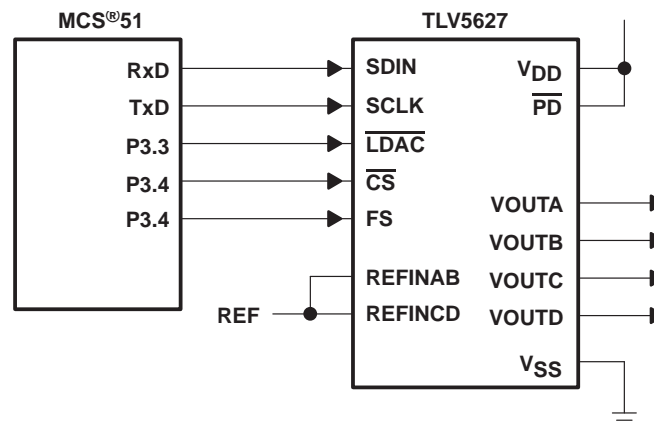

Figure 18. TLV5627 Interfaced with MCS[®]51
Figure 18 shows an example of how to connect the TLV5627 to an MCS[®]51 Microcontroller. The serial DAC input data and external control signals are sent via I/O Port 3 of the controller. The serial data is sent on the RxD line, with the serial clock output on the TxD line. Port 3 bits 3, 4, and 5 are configured as outputs to provide the DAC latch update ($\overline{\text{LDAC}}$), chip select ($\overline{\text{CS}}$) and frame sync (FS) signals for the TLV5627. The active low power down pin ($\overline{\text{PD}}$) of the TLV5627 is pulled high to ensure that the DACs are enabled.